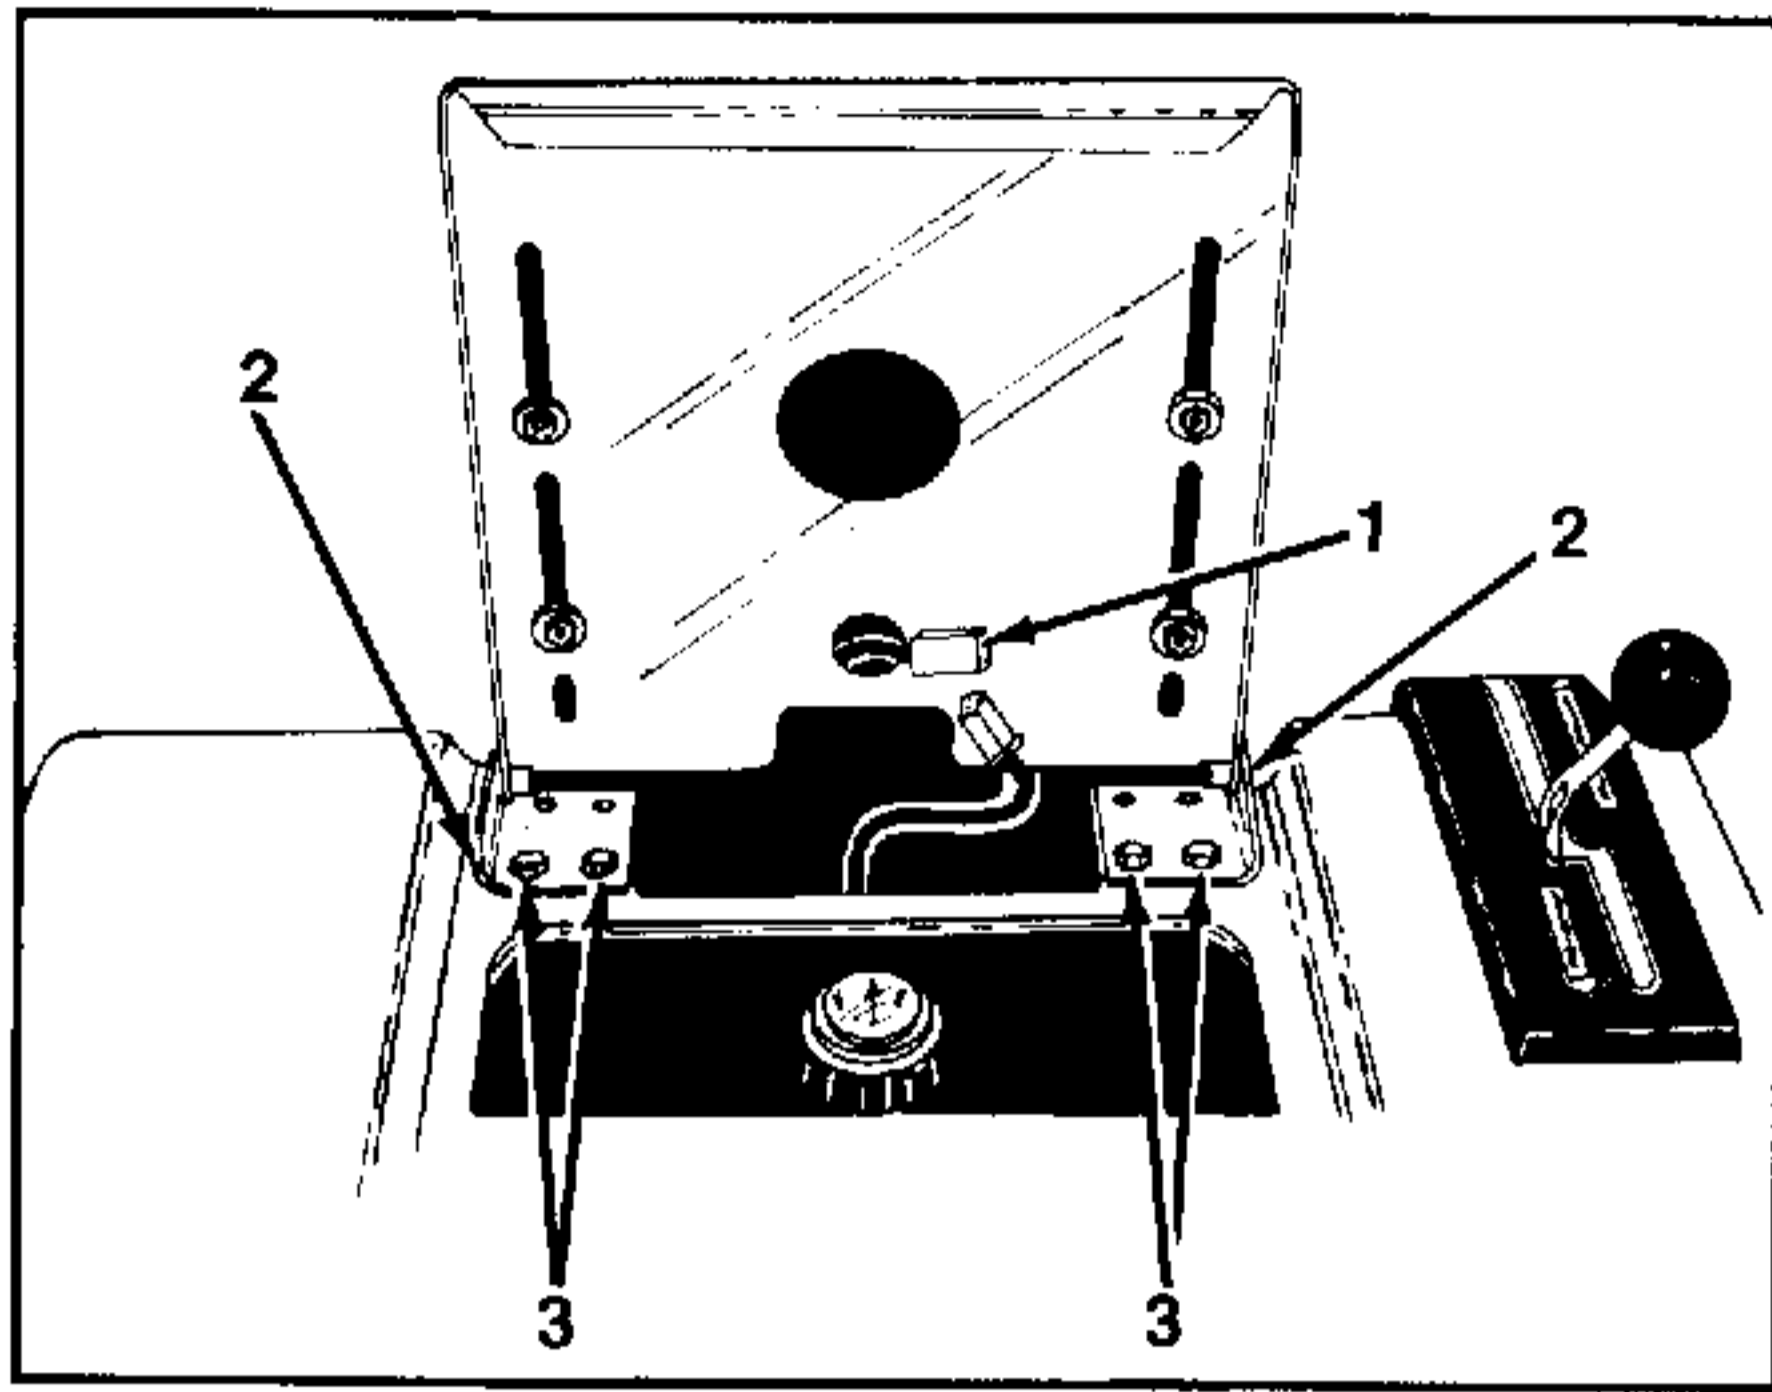

FIGURE 1.
1. Unplug the seat safety switch (Ref. 1) located under the seat and seat mounting bracket (Ref. 2). See figure 1.
2. Remove the four hex bolts 3/8" x 1" long (Ref. 3). See figure 1. Remove the seat and seat bracket (Ref. 2).